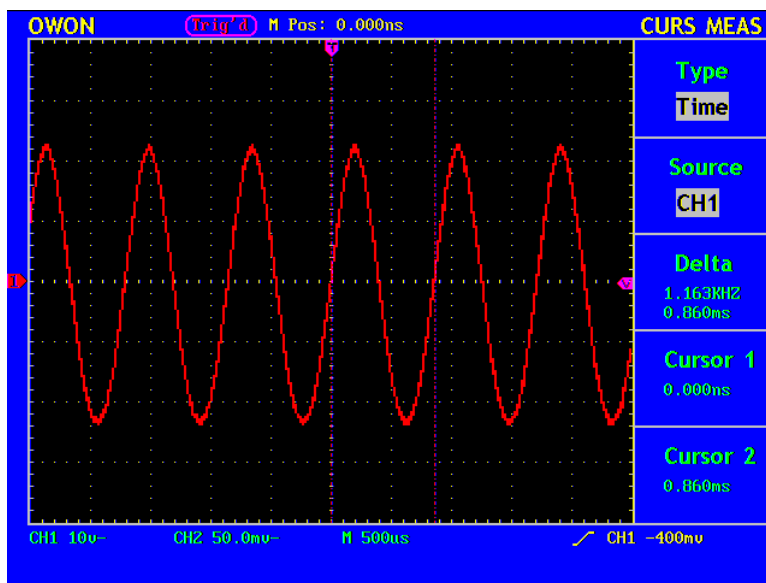

Fig.53 Time Cursor Measurements
- Move **CURSOR1** and **CURSOR2** and the results change accordingly as in Fig.53.